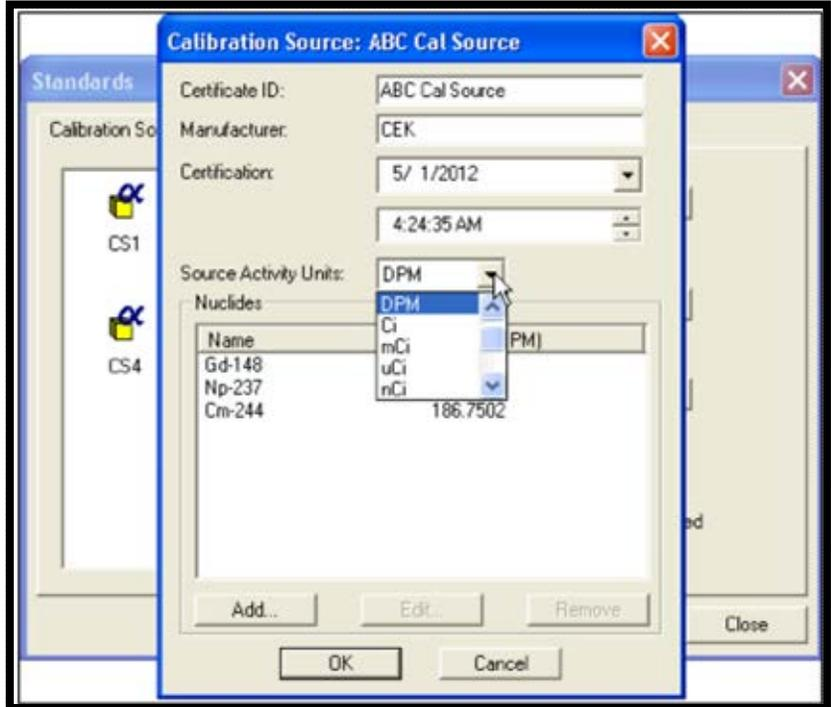

Figure 69. Select Source Activity Units
- 5) Select the desired **Source Activity Units** from the drop list (Figure 69).